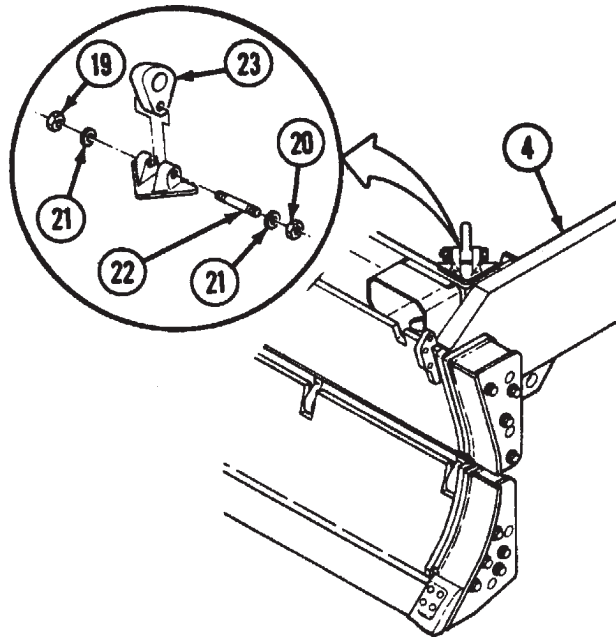

Figure 26. Lifting Eye and Apron.
Step 13 applies to Figure 26.
13. Remove locknut (19), nut (20), two washers (21), stud (22), and lifting eye shackle (23) from each side of apron (4). Discard locknuts (19).